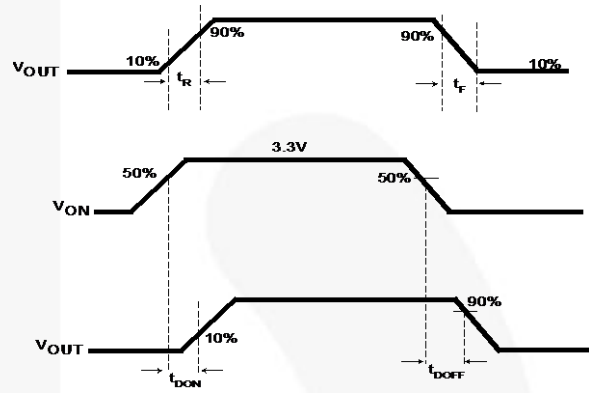

Figure 23. Timing Diagram for FPF1203/4/045
4.  $t_{DON}/t_{DOFF}/t_R/t_F$  are defined in Figure 23.